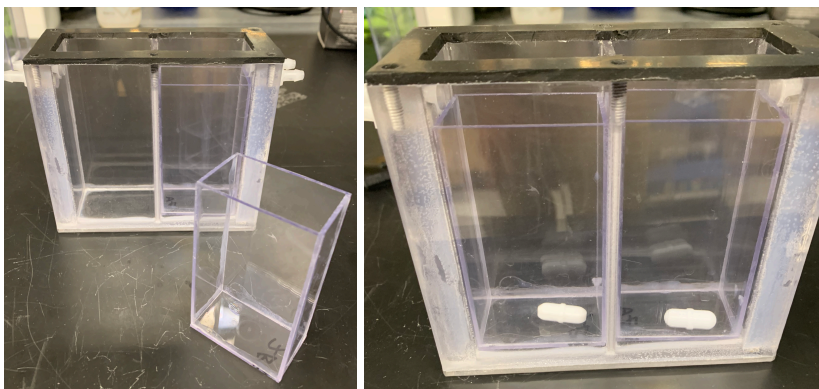

Fig. C1. View of the MRM with the MRM Insert (left) and Stir Bars (right) placed into the bottom.
1. Place the MRM and a Fluidics Package onto the bench next to the BaroFuse. The hemostats (3), Stir Bars (2), and forceps should already be located in the Tool Tray.
2. Place a clean MRM Insert on each side of the MRM. Place a Stir Bar into each side of the MRM (See Fig. C1).